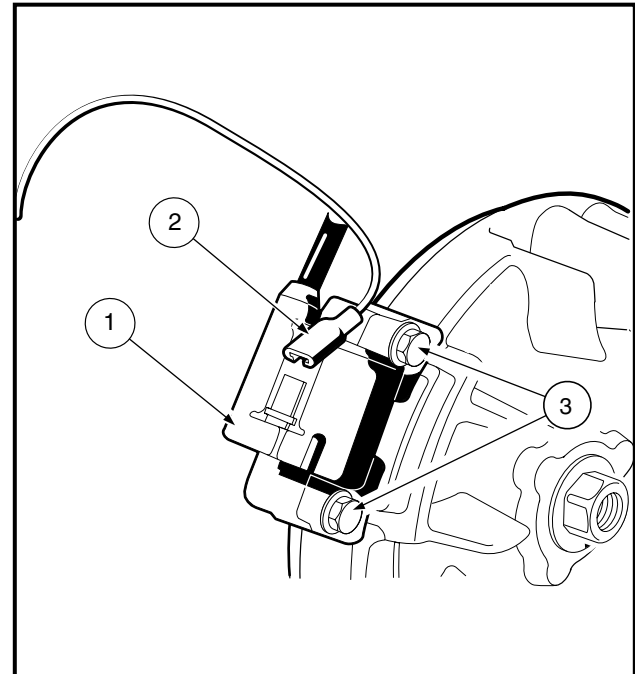

Figure 13-61 Ignition Coil
2. Disconnect the ignition coil (1) from its primary lead wire at the connector (2). Remove the two bolts (3) and take out the ignition coil (**Figure 13-61, Page 13-32**).